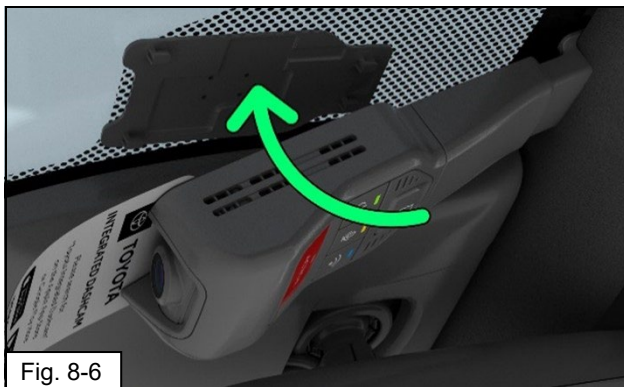

Fig. 8-6
- (b) Swing the Dashcam unit up towards the base plate. Check for alignment of the 4 T-hooks. (Fig. 8-6)